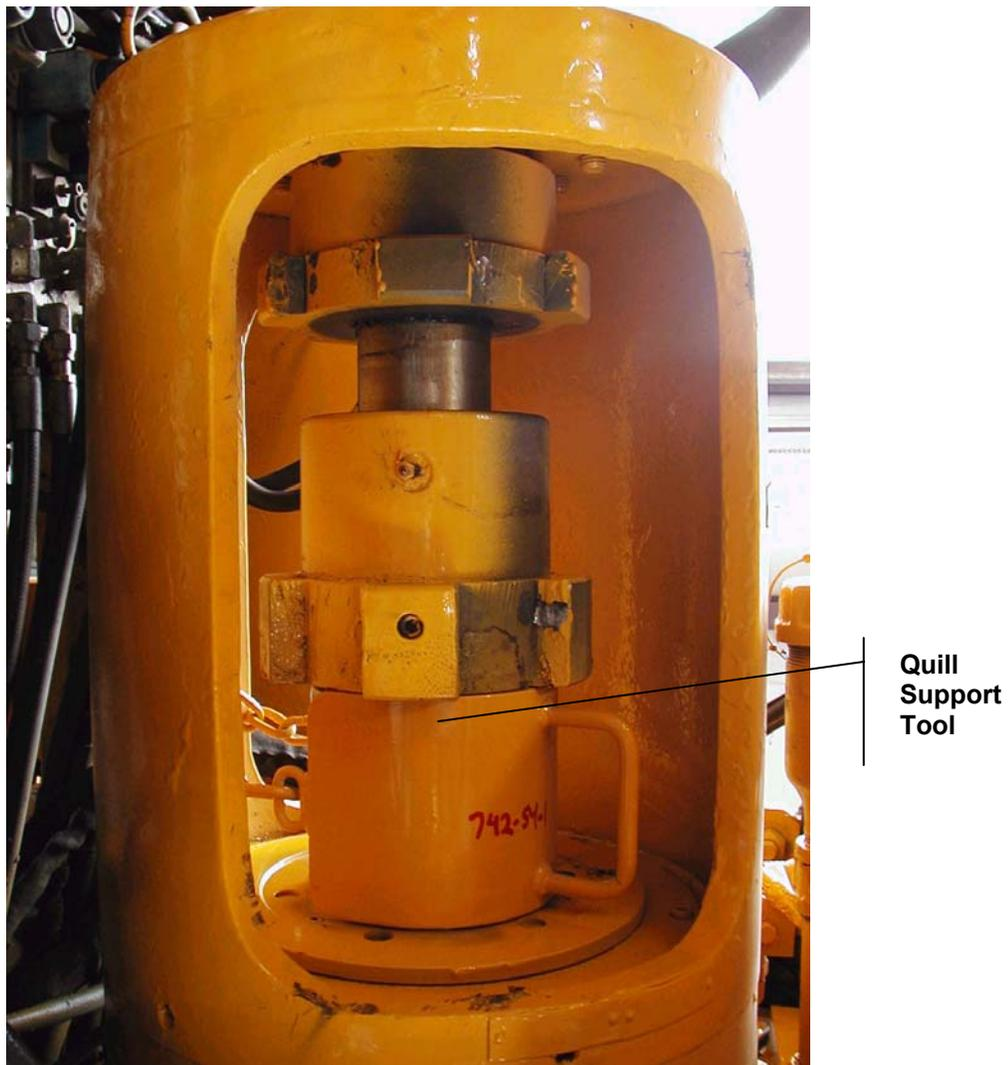

Fig. 1
3. If the gripper is not below the pin connection of the LWCV, float the quill up and install the quill support tool below the washpipe stuffing box. See Fig. 1. If the tool is not available, blocking can be used.